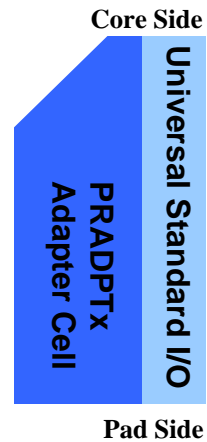

Figure 7.15 Place PRADPTx Cell Next To Universal Standard I/O Cell
Step 2: For **PRADPTx** adapter cell, place the side whose bus height is compatible with the universal standard I/O bus height right next to the universal standard I/O cell as illustrated in *Figure 7.15*.